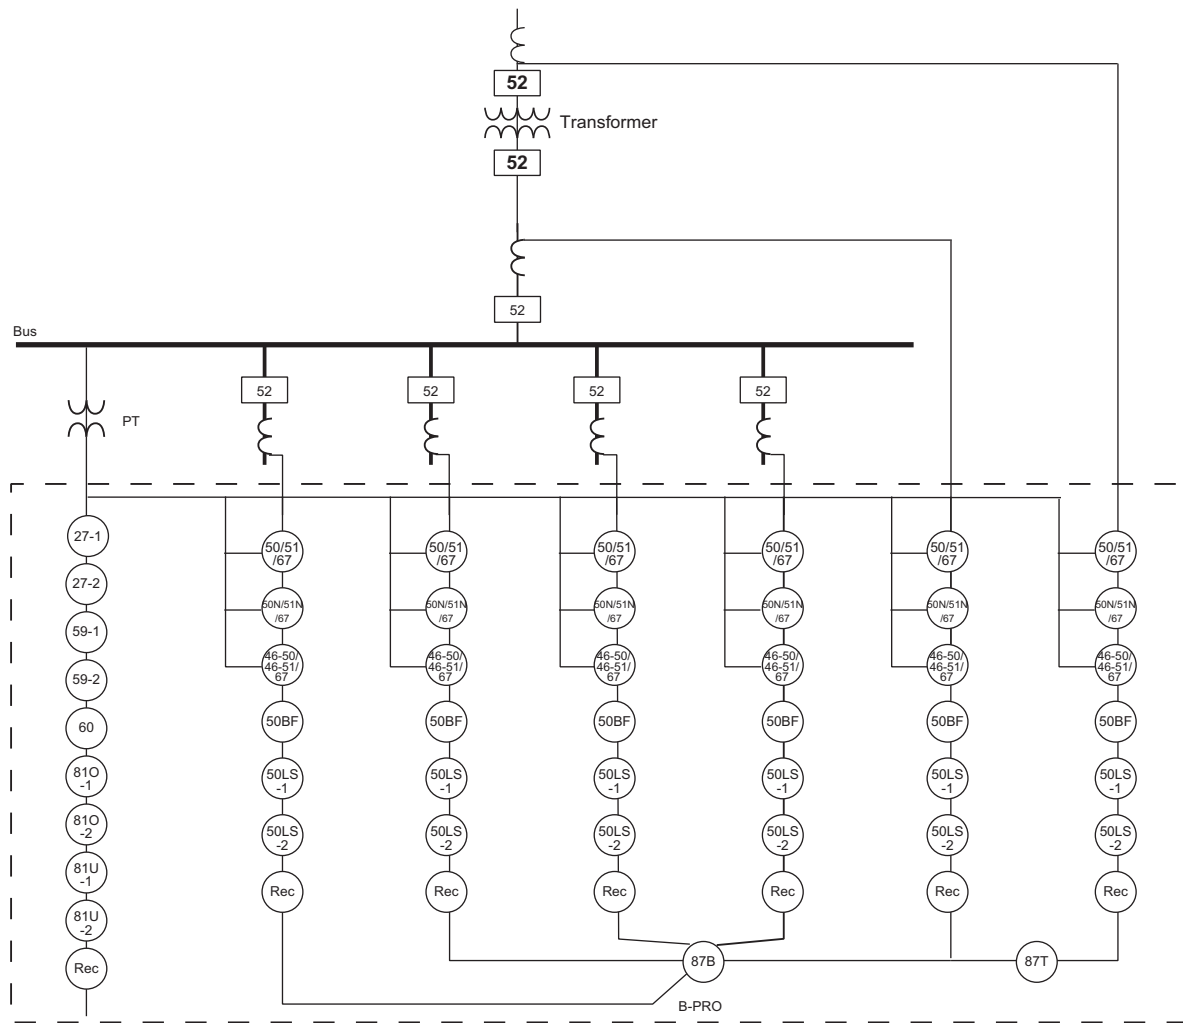

Figure 1.2: B-PRO Function Diagram (2 differential zones, 1 Bus &amp; 1 Transformer)
- 1 bus and one transformer zone, see Figure 1.2: on page 1-3